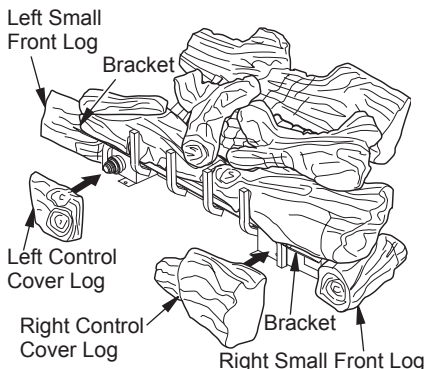

Figure 20 - Installing LBG36-SM Model Control Cover Logs
- For LTF36-SM, the front right and left logs are longer and are supported with brackets on each end (see Figure 20). Place left and right small front logs under left bracket and beside right bracket.